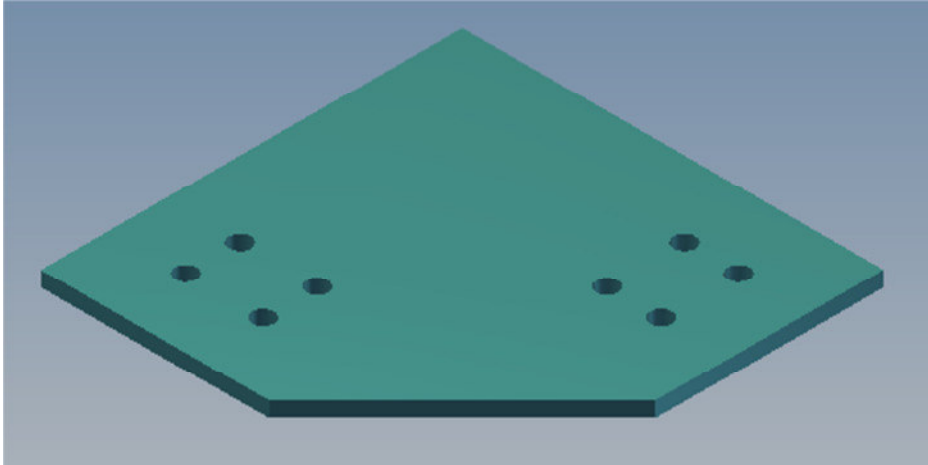

Fig. 3 Corner joint
- 3.2.5 Installation of the tension absorbing butt joint (Fig. 3) at wall connections resp. wall endings and fixation by the provided bolts.